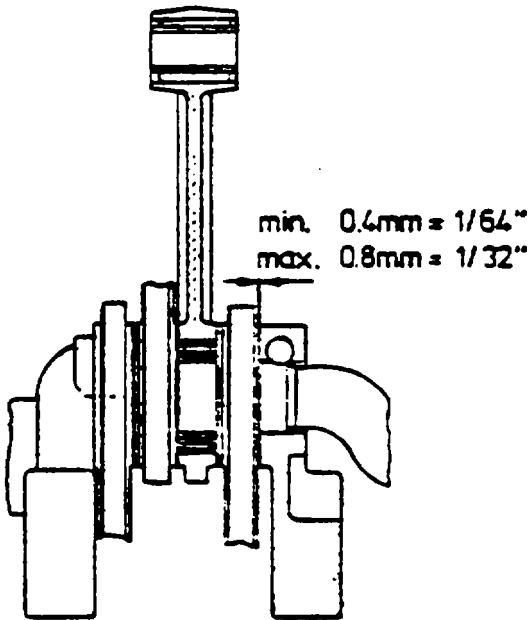

Figure 6-55. Connecting Rod Tolerances
- a. Move all connecting rods to one side and measure the axial clearance with a feeler gage. Tolerance is 0.4 mm minimum, 0.8 mm maximum (Figure 6-55). If axial clearance is greater than 0.8 mm it can be reduced by an additional spacer (15) between connecting rod 3rd stage (14) and connecting rod 4th stage (13). If axial clearance is still greater than 0.8 mm, replace driving gear assembly.